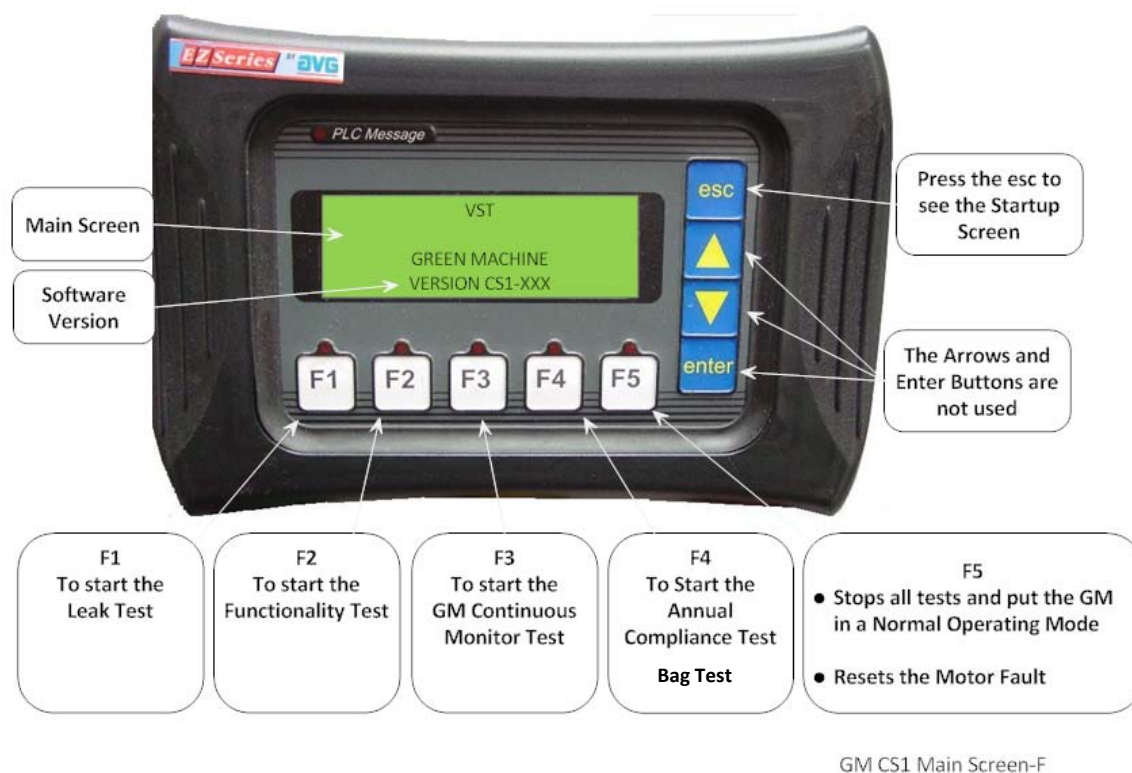

Figure 32: Functionality Test Screen
- Push the F2 button to start the Functionality Test (**See Figure 32**)